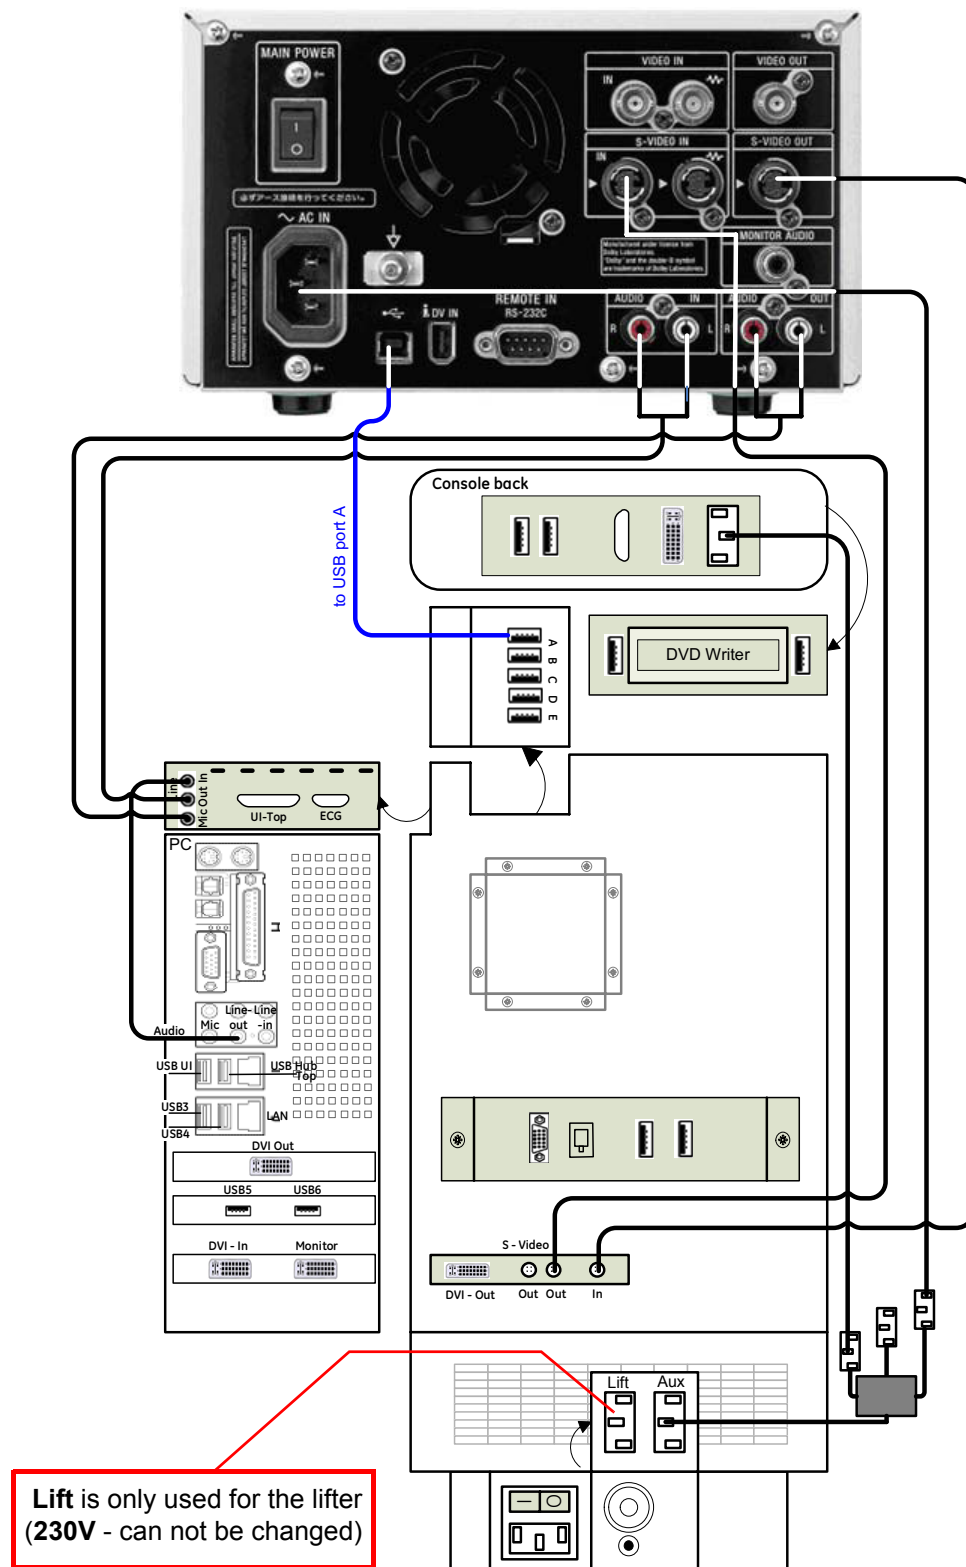

Figure 3-23 DVD Recorder connection (BT06: TYAN PC-Motherboard installed)
- if “**Tyan**” PC-Motherboard is installed, see: Figure 3-23 on page 3-31.